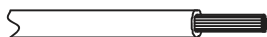

Fig. 30 — Stripping the Wire
2. Strip a suitable length of insulation layer (Fig. 30).